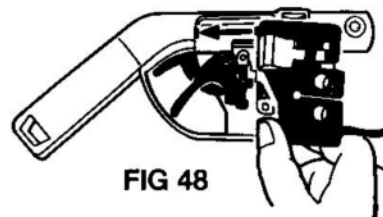

FIG 48
4. Hold trigger in place with finger until throttle cover #44069 is fitted (Fig 48). It is then ready for screwing tight (with 2 screws (A) as shown in Fig 38). Ensure throttle cover rear lug (arrowed Fig. 48) engages underside of handle wall.